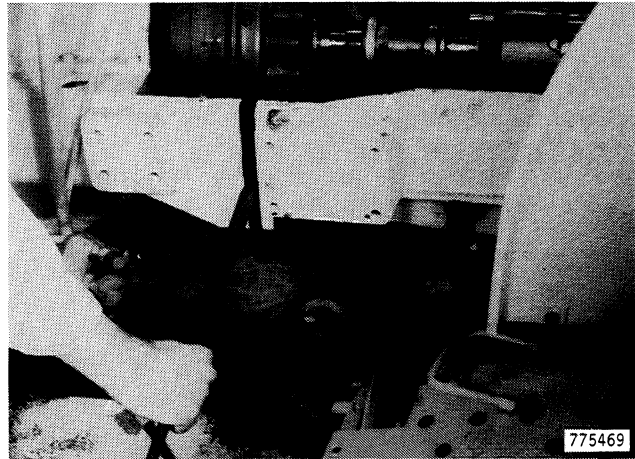

Figure 52
- 55. Adjust the jack under the clutch housing and pry the two housings apart, Figure 52.